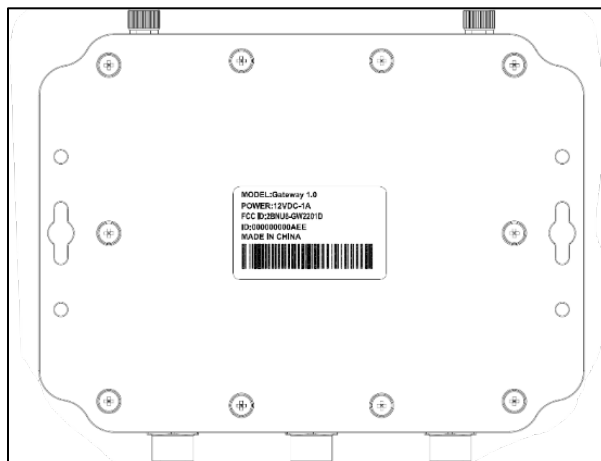

Figure 5: Gateway with MAC address
- a. Position the gateway unit like Figure 5, connect the Power Adapter cord (M12 connector) to the **leftmost port**.